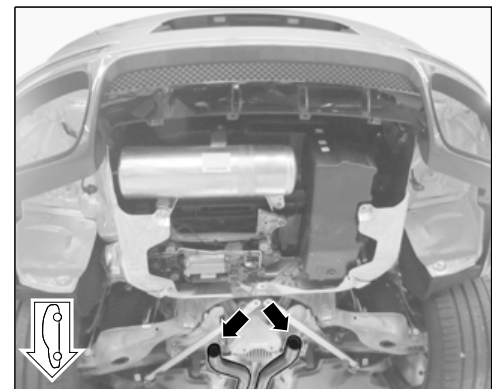

Figure 23
- 3.3.8 De-burr cut on inside and outside of front muffler (⇒ *Figure 23 -Arrows-*).